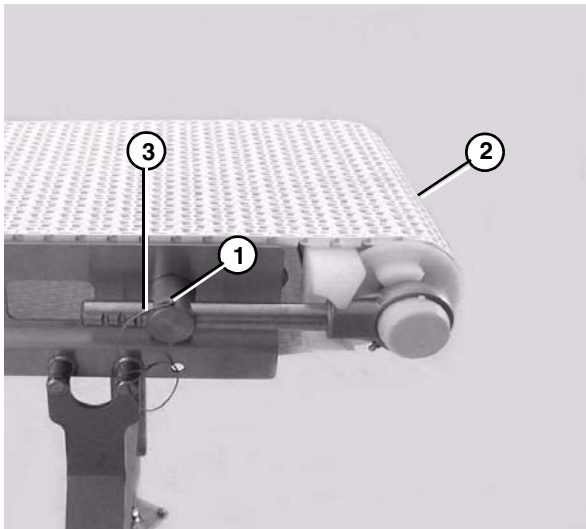

Figure 58
1. Remove both pull pins (**Figure 58, item 1**). Place tip up idler tail in the down position (**Figure 58, item 2**).
2. Extend the idler tail to the next groove (**Figure 58, item 3**) on the bearing shaft.